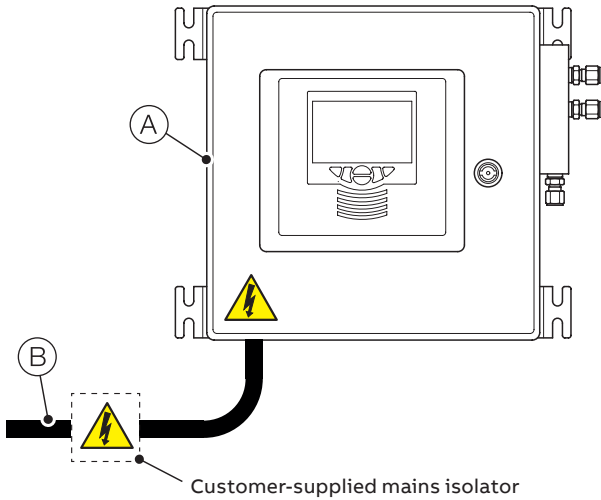

Figure 2 Isolating the transmitter from incoming mains power supplies
Referring to Figure 2, isolate transmitter (A) from incoming mains power supplies (B).